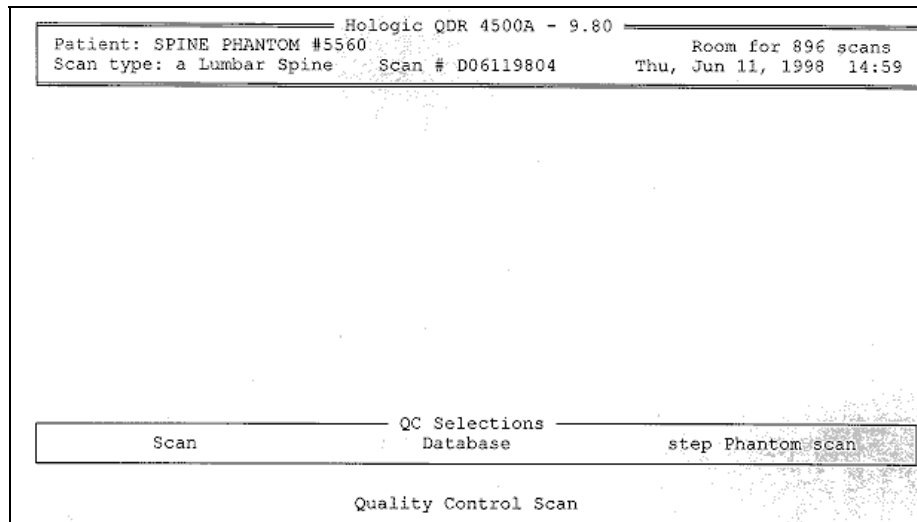

Figure 6-7. Spine phantom QC selections screen
- At the 'QC Selections' screen (Figure 6-7), highlight 'Database' (or type D) and press 'Enter.'